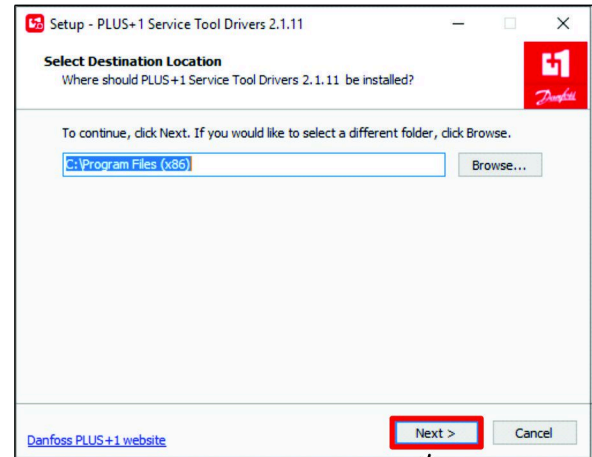

Figure 29
1. In the Select Destination Location dialog box, click the NEXT button (Figure 29).